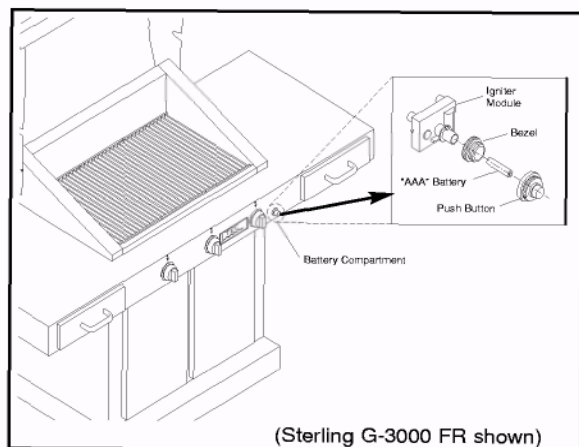

Figure 17. Spark Module Battery Replacement
1. Turn the silver-colored ribbed collar surrounding the push button, counter-clockwise one-half turn and pull out to remove. (See Figure 17, Page 17)